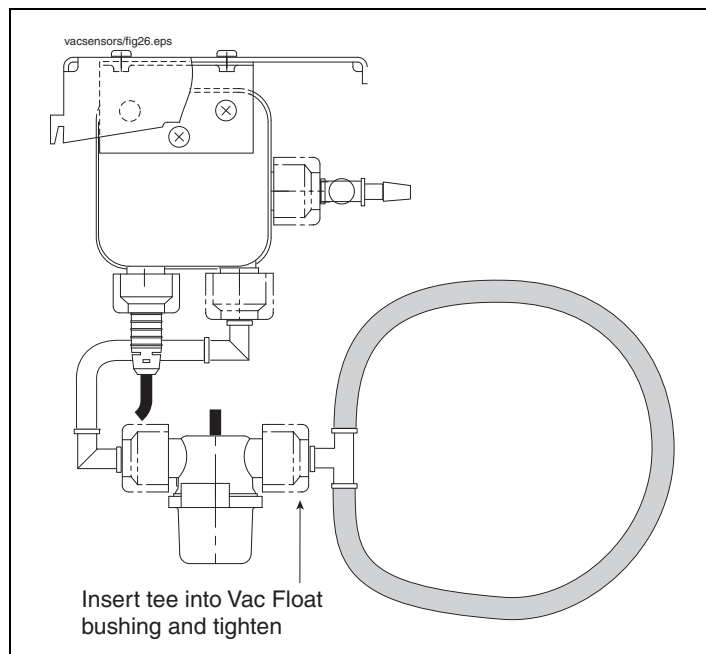

Figure 6-2.- Isolating Vac Float for Leak Test
4. Insert the open end of the test loop's tee into the Vac Float bushing and then tighten the bushing (see Figure 6-2).